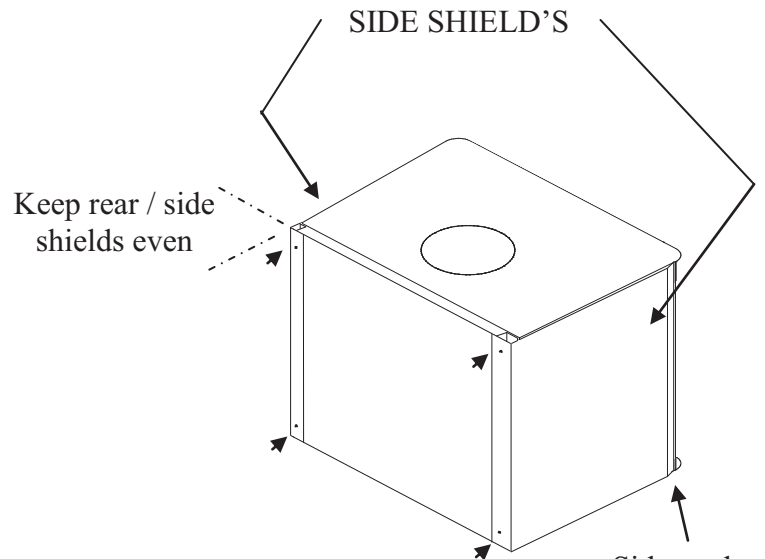

FIGURE 21
2. Insert front end of side shield behind side angle on front side of stove. Align top of side shield with top of back shield. Mark holes on back shield through holes in back of side shield. Using four self tapping screws, drill four holes in the locations marked. Tighten bottom screws and leave top screws loose for step 3. Use same step to install side shield on opposite side of stove. (See figure 21).